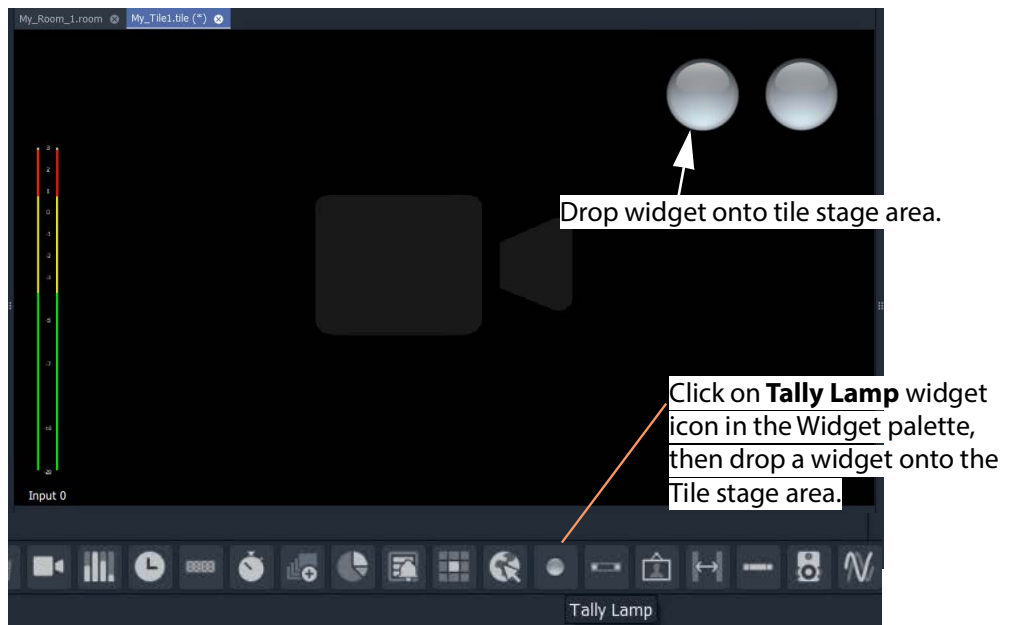

Fig. 16-20: Added Tally Lamp Widget(s)
- 1 Click on the **Tally Lamp** icon in the **Widget Palette** and drop on a **Tally Lamp** widget. repeat for a second one if required. See Figure 16-20.